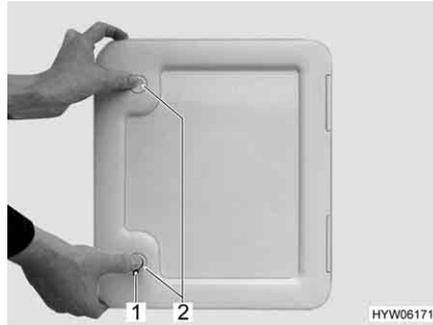

Fig. 29 Flap for toilet cassette
- Insert key into locking cylinder (Fig. 29,1) of the push-button lock and turn a quarter turn.
- Press both push-button locks (Fig. 29,2) simultaneously with your thumb and open the flap for the toilet cassette.
- Insert key into locking cylinder (Fig. 29,1) and turn a quarter turn.